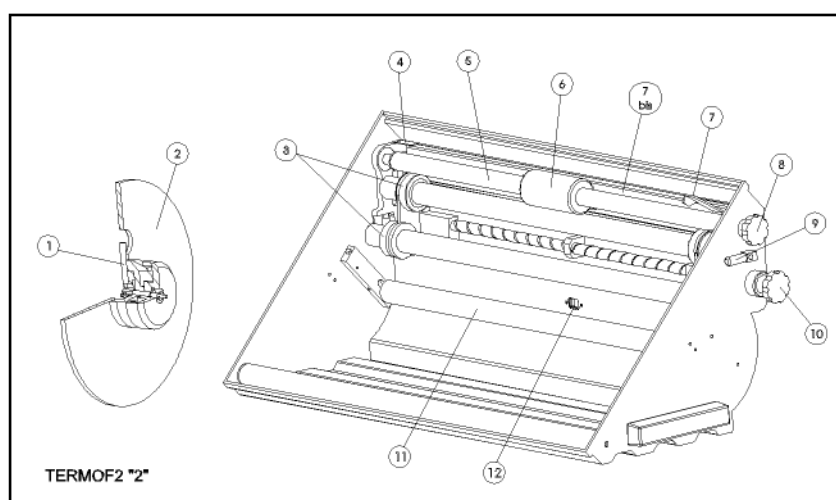

Fig.52 - Paper box for LaserLab 50 (20") and 76 (30")
The box components are described above (see fig. 52 on page 55):
To load the paper proceed as follows (see fig. 52):
- 1) Opening the two side hooks, remove the cover panel; then, rotating the handle (fig. 52 nr. 10) widen the paper guides well beyond the actual width of the paper to be loaded.
- 2) Lift the lever at the side of the roll-holding flanges (fig. 52 nr.1). In a darkroom, insert the flanges directly on the roll, then press on the relative small lever to block the flanges themselves.
- 3) Insert the roll in the magazine, rotate the handle (fig. 52 nr.10) to close the roll's paper guides (fig. 52 nr.3).
- 5) Open the guillotine latch of the paper slit (fig. 52 nr.7 bis) pulling the lever to the right (fig. 52 nr.7). The lever can be locked in this position by pressing on the smaller lever (fig. 52 nr.4) to the left.
- 6) Let the paper pass below the tensor roll (fig. 52 nr.11) and between the transport roll and counter roll.
- 8) Close the paper slit by pulling the lever (fig. 52, nr.7) fully to the right then releasing; replace the cover, locking the two lateral hooks: if these hooks seem too hard to close, the cover is not correctly positioned.
- 10) Move the lever (fig. 52 nr.9) on the box in loading position, then, rotating the handle (fig. 52 nr.8) counterclockwise, bring the paper to the transport roll. Press briefly the PAPER FEED button to verify if the paper has been hooked (the handle on the box must turn automatically).
- 11) Move the lever (fig. 52 nr.9) in work position, and close the door of the transport section. Select